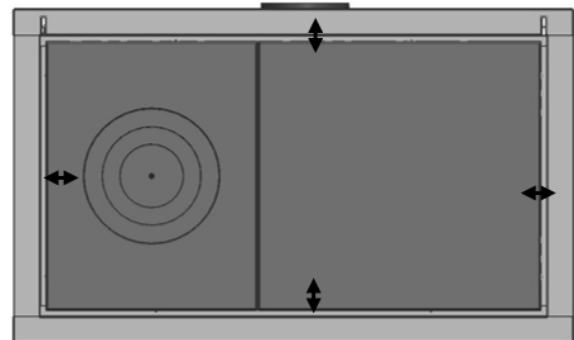

FIG. 18
- **Before putting the vitroceramic glass worktop in place, check that the cast iron under worktops are centred with respect to the frame of the worktop (Figure 18).**